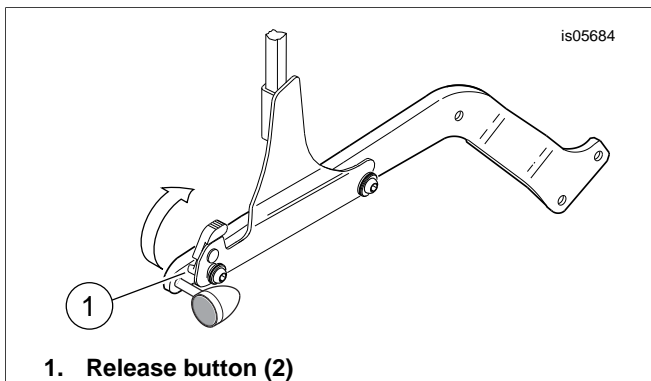

Figure 4. Close Rotary Latches
5. Push the rear of the sideplates downward and close the rotary latches by pressing the latch levers as far forward as they will go (see Figure 4). A "CLICK" will be heard when the latches are in place. If the latches do not easily close, do not force. Check the sissy bar alignment again, as described in steps 3 and 4.